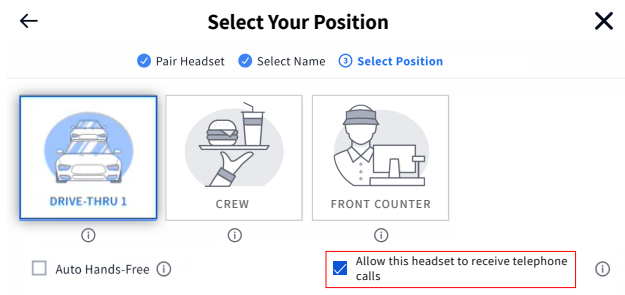

Fig. 12.5
4. When the **Select Your Position** dialog appears, select a position and check the box labeled: **Allow this headset to receive telephone calls**. See Fig. 12.5. (Since only one headset can be designated to receive phone calls, checking the box forces any previous headset assigned out of this mode.)